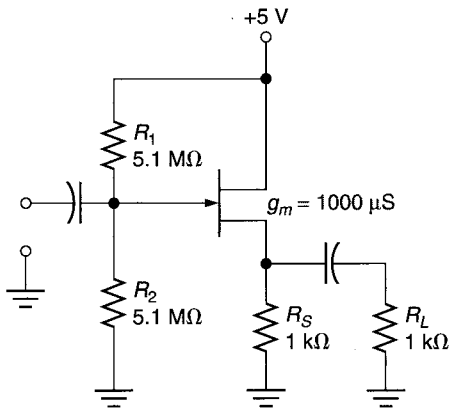

FIGURE 12.66
39. Determine the values of  $A_v$ ,  $Z_{in}$ , and  $Z_{out}$  for the amplifier in Figure 12.66.